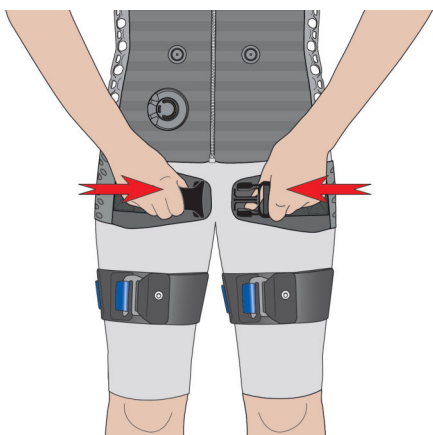

Fig. 51: Securing the i-body® belt
23. ► Secure the i-body® belt with the release buckle (Fig. 51).